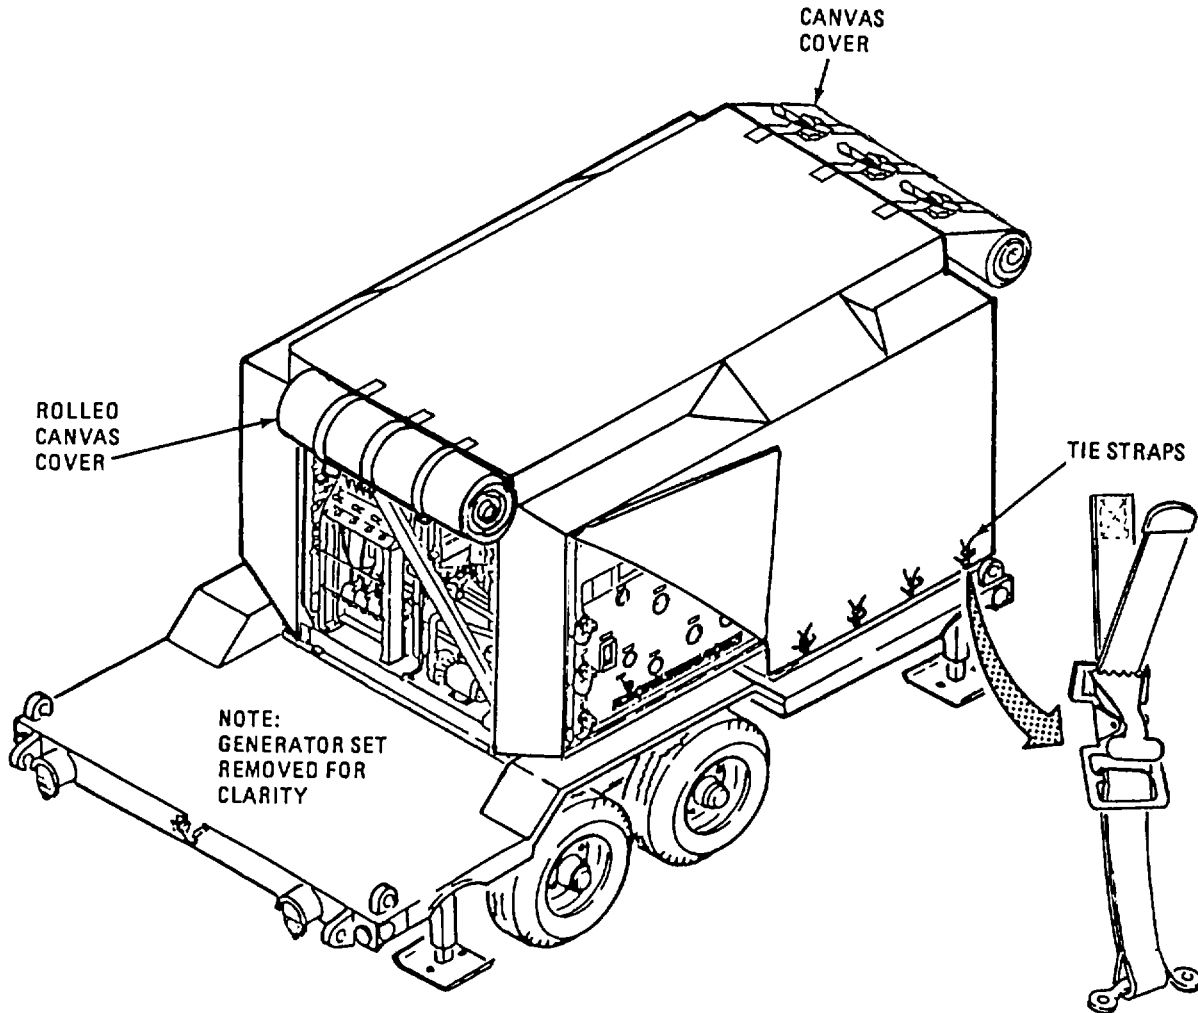

Figure 2-20. Canvas Cover.
- a. Roll Up Canvas Cover. Refer to figure 2-20.
- (1) Unfasten tie straps along bottom of canvas cover from ROWPU frame.
- (2) Unfasten tie straps securing front, rear, left and right canvas panels.
- (3) Roll up all four sides of canvas cover and secure in position with tie straps.